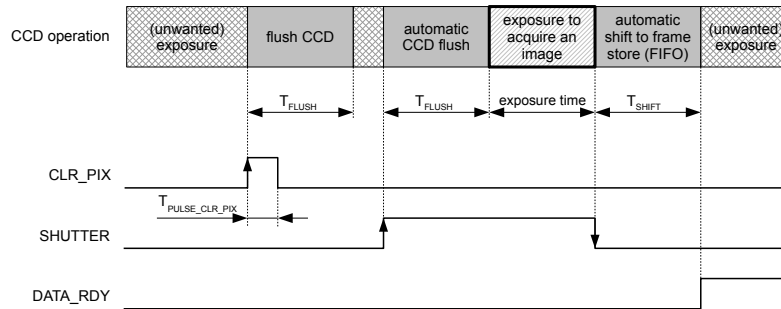
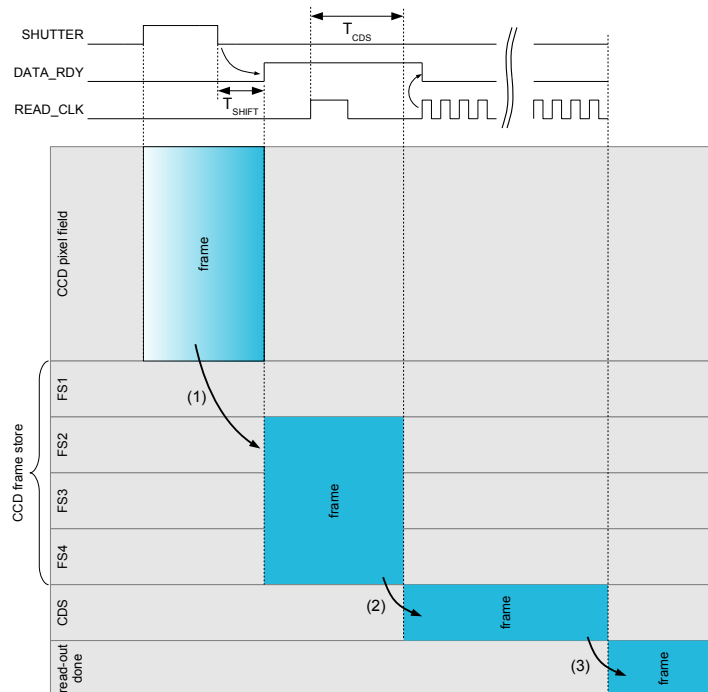
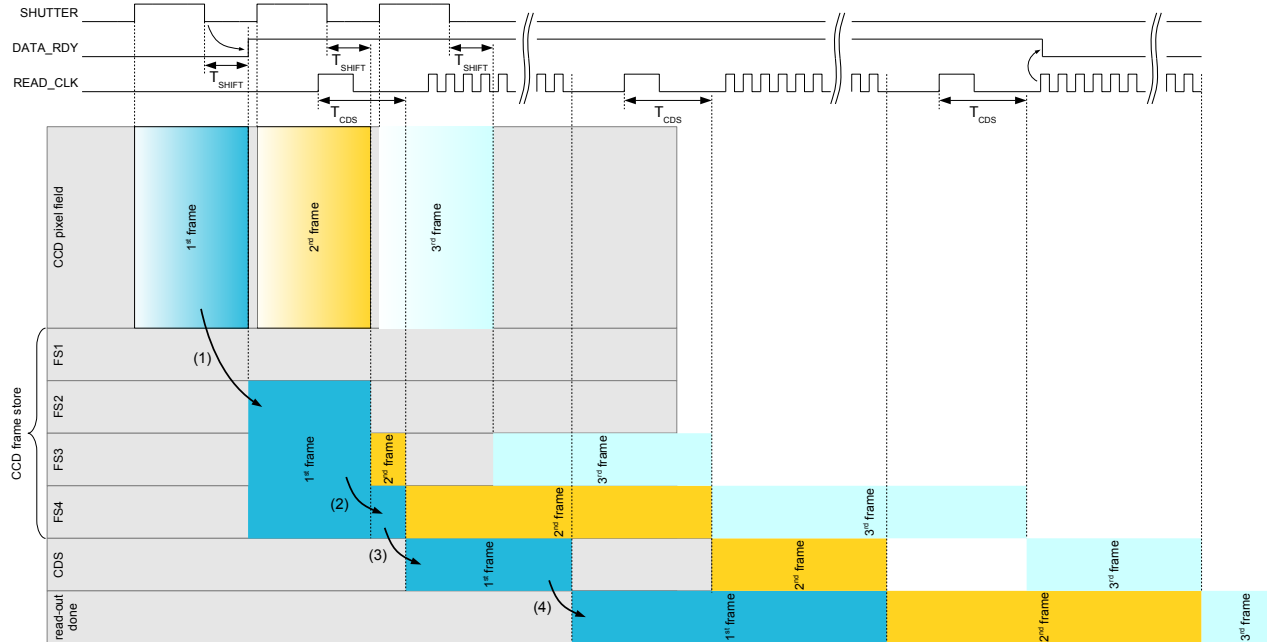
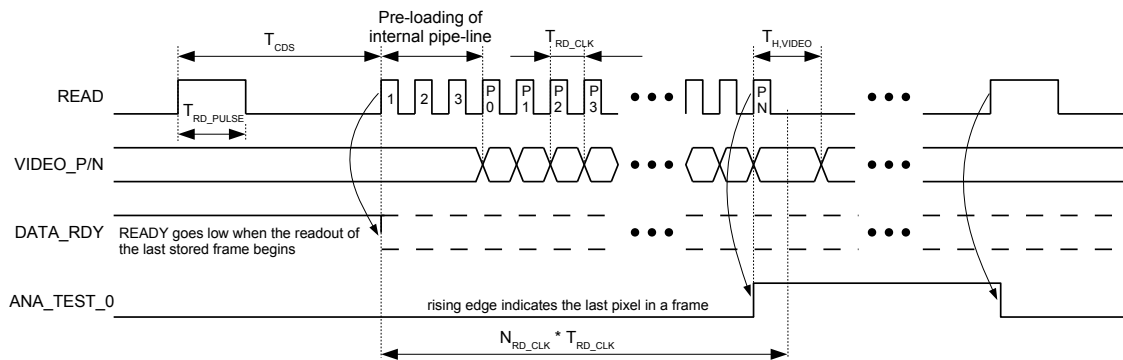

Figure 9: Image acquisition timing
Figure 10: Example of single-frame acquisition and read-out
Figure 11: Multi-frame acquisition and read-out
Figure 12: Image readout timing of one frame
The acquisition of a frame is controlled by a pulse on the SHUTTER pin (see Figure 9). The rising edge triggers the internal flush operation to erase the CCD from any unwanted electrons prior to the exposure. The exposure starts automatically after the flush operation is completed. The CCD collects electrons thereafter as long as the SHUTTER pin is high. Upon the falling edge of SHUTTER, the charge collected in the CCD pixel field is shifted to the CCD frame store which is an area which is not photo-sensitive (see (1) in Figure 10). As soon as the frame is ready for read-out, the signal DATA_RDY goes high. The image is ready to be readout as described in section 5.4
Up to 4 images can be acquired and stored in the frame store in a fast sequence without intermediate read-out. The frame store is organized in 4 frame store elements (FS1-FS4), thereby each frame store element can store one frame/image. The first captured image initially occupies 3 frame store elements as for a single-frame acquisition (see section 5.2 and Figure 10). epc90x automatically detects a multi-frame acquisition when detecting the second SHUTTER signal without prior read-out. Upon the second shutter, the first image is shifted to a single frame store element (see (2) in Figure 11). The frames are shifted from the pixel field to the frame store as a FIFO: The first captured image is the first one to read out. The read-out is described in more detail in section 5.4. As soon as 4 frames have been captured without prior read-out, at least one read-out has to be issued prior the next shutter in order to make FS1 available again. Excessive shutter pulses are ignored.
The first pulse of a read sequence applied to pin READ is a Read Pulse and must have a duration of T_{RD_PULSE} . Upon this Read Pulse, the last frame in the frame store is converted pixel-wise from charge to voltage. This operation is called correlated double-sampling (CDS) and lasts for the time T_{CDS} . Following the Read Pulse, respecting a delay of at least T_{CDS} , Read Clock pulses are applied to the READ pin in order to transfer the pixel voltages to the VIDEO_P/N pins. The first 3 Read Clock pulses, designated with 1, 2 and 3 in Figure 12, are used to pre-load the pipeline. Thus the first 3 pixel voltage values on VIDEO_P/N can be ignored. The subsequent Read Clock pulses, designated with P0 ... PN in Figure 12, transfer the pixel voltage values through the video amplifier to the VIDEO_P/N pins.
The signal DATA_RDY remains high as long as there is at least one frame stored in the CCD frame store. If no more frames are stored except the one that is currently read out, the signal DATA_RDY goes to low state on the first positive Read Clock edge (see Figure 12). If no frame is stored, the chip does nothing upon a Read Pulse.
- The following time periods shall never overlap in any multi frame acquisition or by parallel reading during exposure: T_{FLUSH} with T_{CDS} and T_{SHIFT} with T_{CDS} . Refer for these signal to Figure 9 and Figure 12.